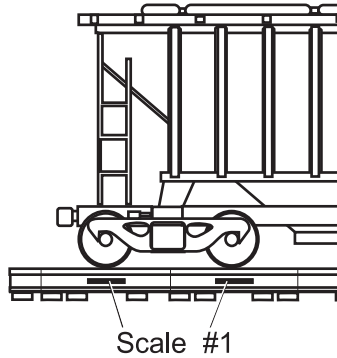

Figure 1.8 Second truck in position over scale
- Position the second end of the same rail car on the scale platform as shown in Figure 1.8.